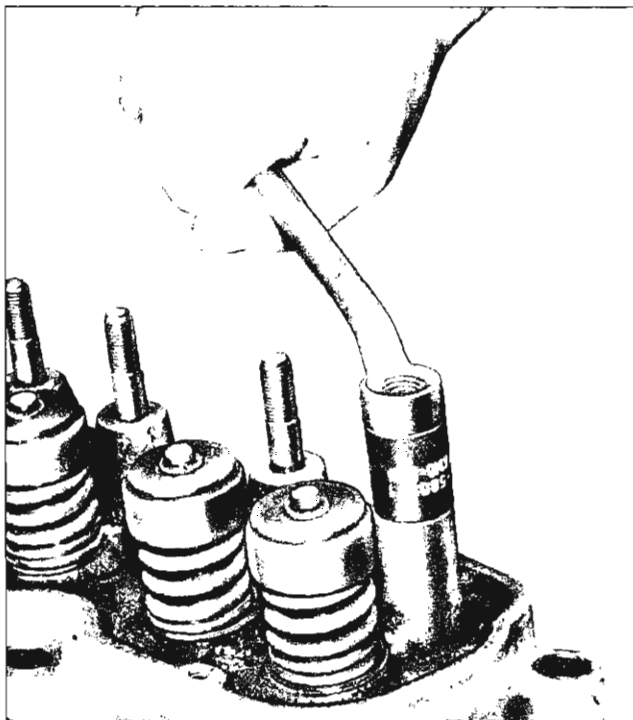

Fig. 17—Remove Rocker Arm Stud
1. Remove old stud by placing Tool J-5802 over the stud, installing nut and flat washer and removing stud by turning nut (fig. 17).